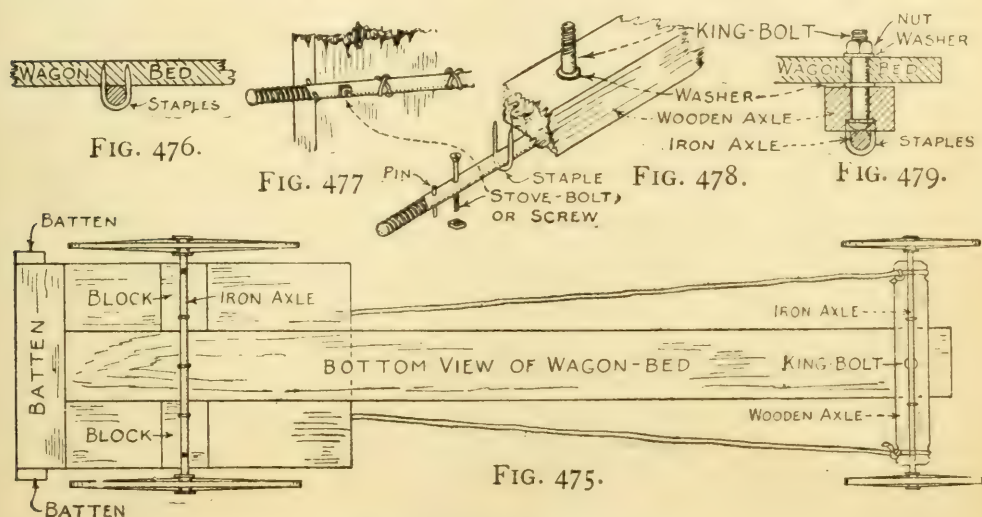

FIG. 475. — Bottom View of Wagon-bed.
**The Rear Wheels** should be 16 or 18 inches in diameter and should set under the center of the box (Fig. 475). Nail two blocks of the same thickness as the wagon-bed to the bottom of the box, and fasten the axle across them